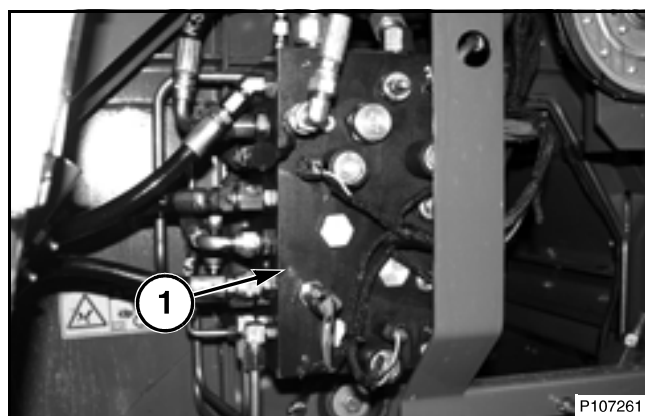

FIG. 444
FIG. 444: The main hydraulic control valve (1) is located on right-hand side of the combine just forward of the clean grain elevator housing. The valves are electrically controlled.